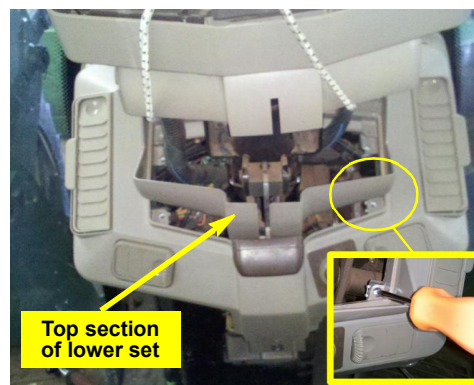

Figure 1c: Top section of the lower console set released and lifted
- c. Using hardware **WF** (screw) and **WE** (nut), attach the WAS arm **WC** to the WAS assembly (Figure 1c inset). Mount the arm in the same direction to the WAS wire connector **WB** (Figure 1c with inset).
Figure 1c with inset: WAS arm installed
- c. Remove all the screws holding the top section of the lower set and lift that up to improve access to the installation area (Figure 1c and inset).